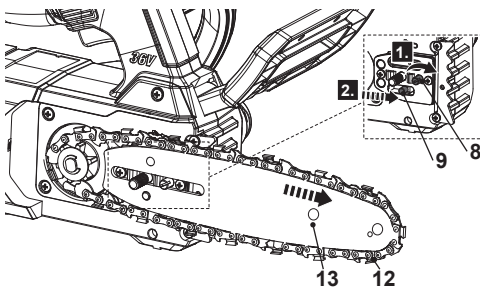

Fig. 5
8. Screw the tension screw (8) clockwise to adjust the tension pin (9) / guide bar (13) towards the right to tighten the saw chain (12) with a suitable screwdriver (Fig. 5, steps 1, 2).